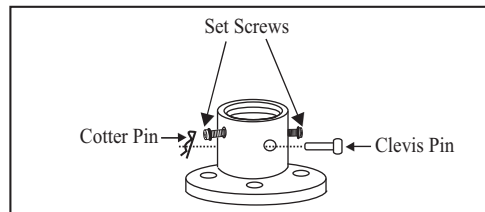

Figure 7
4. Remove the clevis pin, cotter pin and set screws from the top of the motor assembly. (Figure 7)